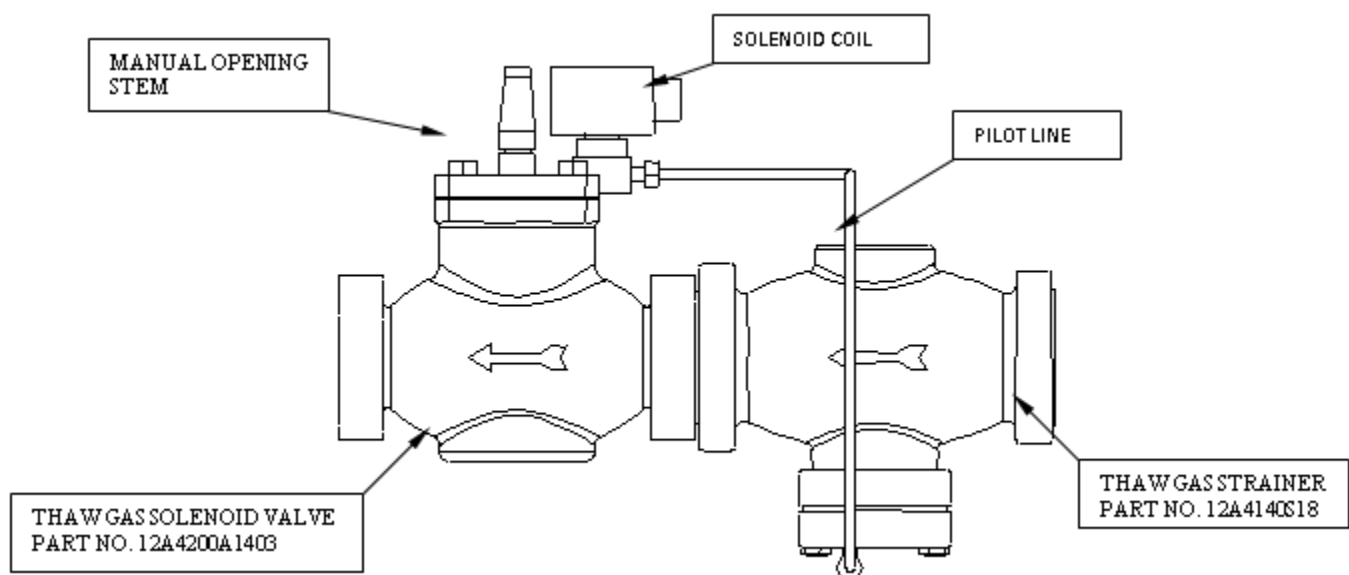

Figure 9-7
The Thaw Gas Solenoid Valve (18), Figure 9-7, is opened during the thaw cycle to allow warm gas to pass from the receiver to the freezer.